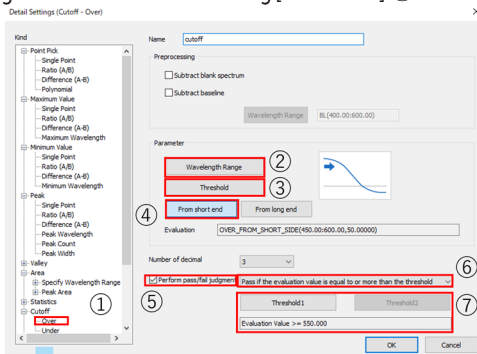
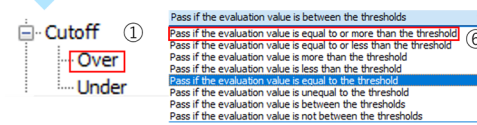

Fig. 4 Evaluation Detailed Settings Window
Fig. 5 Enlarged View of Evaluation Detailed Settings Window
Fig.4 shows the detailed settings window of the spectral evaluation function and Fig. 5 shows an enlarged view. The red film was regarded as the acceptable product and evaluation was performed using "Cutoff - Over" in the spectral evaluation function to differentiate the red film from the yellow film. When "Cutoff - Over" is selected, judgment is made based on the wavelength at the point when the measured transmittance has exceeded the threshold in the set wavelength range. In this example, we set the criterion of a pass judgment to the condition that the wavelength at which transmittance exceeds 50 % is 550 nm or higher.
First under [Kind], select [Cutoff] and then [Over] ①. Next, set [Wavelength Range] ② under [Parameter] to the wavelength range for detection and [Threshold] ③ to the threshold value. In this example, we set 450 to 600 nm for the wavelength range and 50 for the threshold (since the judgment criterion is 50 % transmittance). Also select either option ④ to set whether a judgment is to be made when the threshold value is exceeded from the long-wavelength side or short-wavelength side (in this case we select [From short end]). Next, select the [Perform pass/fail judgment] check box ⑤. Clicking ⑥ displays the drop-down list shown in Fig. 5, and here we select [Pass if the evaluation is equal to or more than the threshold]. Lastly, set the wavelength that serves as the judgment criterion to 550 nm using [Threshold 1] ⑦.